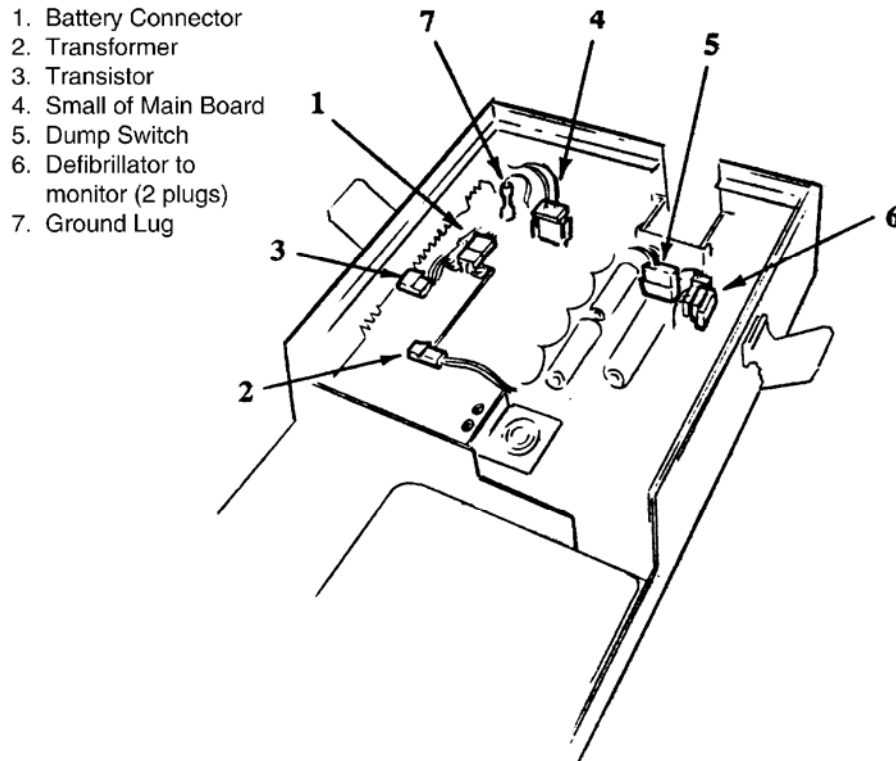

Figure 1-9. Defibrillator circuit board.
(2) Inspect all external surfaces.
(3) Inspect the printed circuit board surfaces. Refer to figure 1-9.